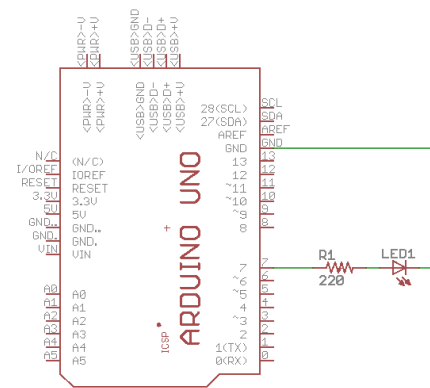

Figure 1.18.
- 2.1. Build the circuit in Figure 1.18. Upload the example “Blink” sketch to control D7 instead of D13. Make a video-record and post it in your OWL Dropbox.